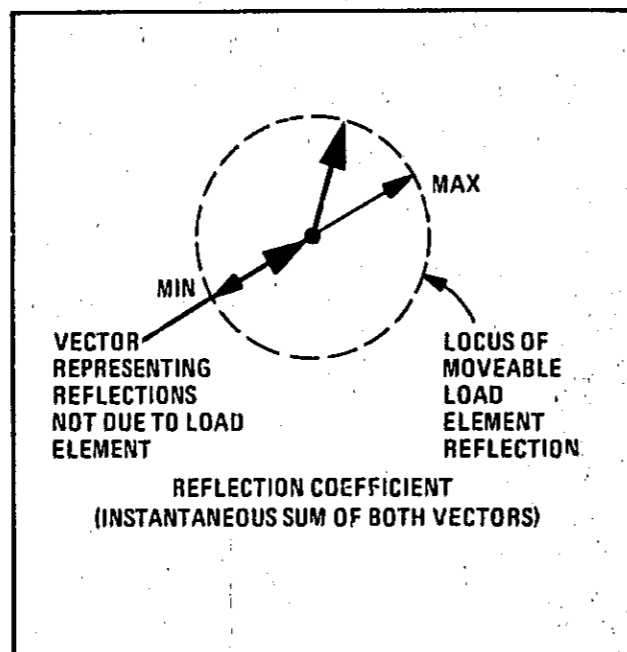

Figure 4. Reflection Coefficient Vector Relationship
18. The load connector and body has a fixed reflection and must be considered when making measurements. The magnitude of the load element's reflection does not change with position of the load, but the phase does. The phase is what determines how the load element's reflection will combine vectorially with the fixed reflection of the system. By sliding the load element, all phase combinations of the system's fixed reflections with the load elements are obtained. As the load element is moved, its reflection vector rotates in a circle about the tip of the system's connector and transmission line vector (see Figure 4). The load element reflection error can be eliminated and extremely small reflection quantities can be measured.